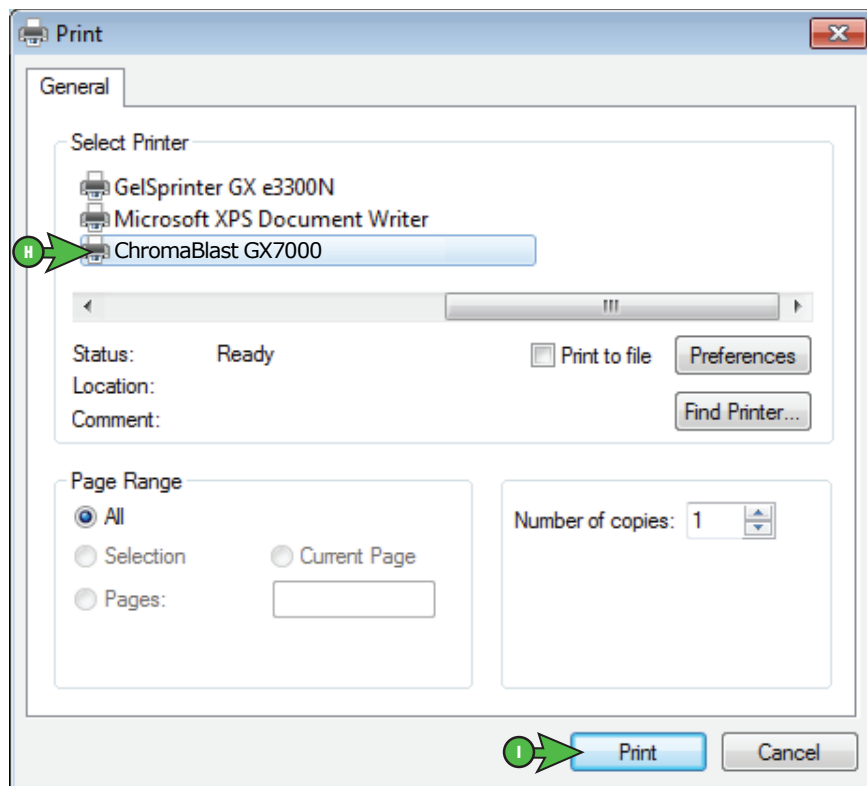

FIGURE 8
- G. Once your settings match, click **Setup**. This will open the Print window (see FIGURE 8)